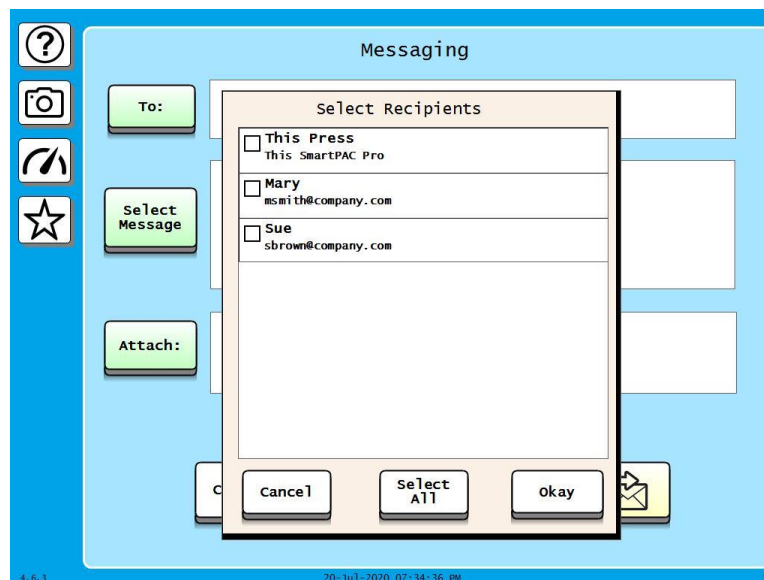

Figure 5-13. Select Recipients
2. Press **To:**. The Select Recipients window opens, Figure 5-13.